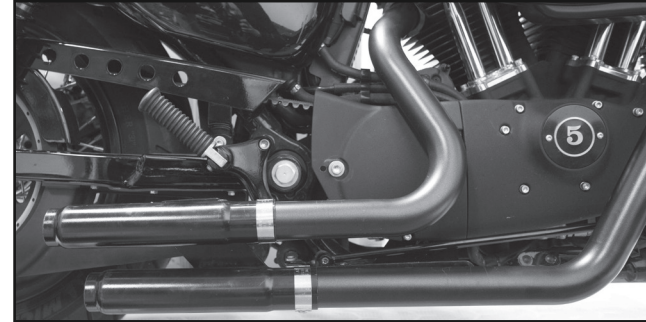

Fig. 6
6. Install the front and rear head pipe to the exhaust port using the factory exhaust port nuts. Do not tighten the nuts at this time to allow for adjustment. (Figure 6)